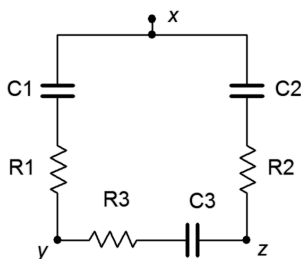

Figure 5.29
55. Determine the equivalent Y (T) network for the circuit of Figure 5.29. $R_1 = R_2 = R_3 = 4\text{ k}\Omega$ and $X_{C1} = X_{C2} = X_{C3} = -j3\text{ k}\Omega$.